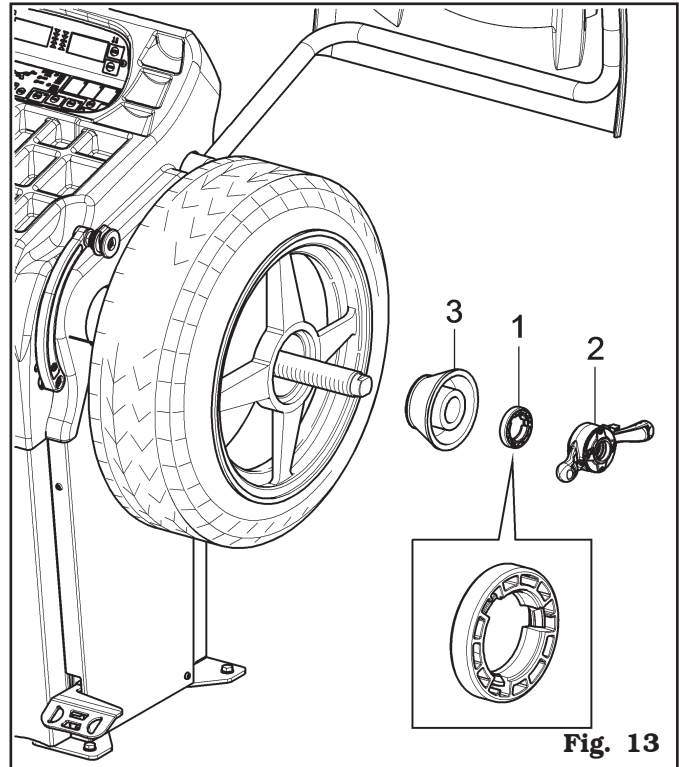

Fig. 13
7. Fit the cone (**Fig. 13 ref. 3**) with the narrowest part turned towards the wheel.
8. Fit the pressure ring (**Fig. 13 ref. 1**) in the nut (**Fig. 13 ref. 2**) and fasten everything against the cone (**Fig. 13 ref. 3**).
THE PRESSURE RING (FIG. 13 REF. 1) MUST BE MOUNTED WITH THE TEETH SIDE TOWARDS THE RING NUT (FIG. 13 REF. 2).